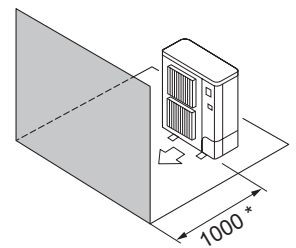

Fig. 2-10
- ④ Kun forhindringer foran (Fig. 2-10)